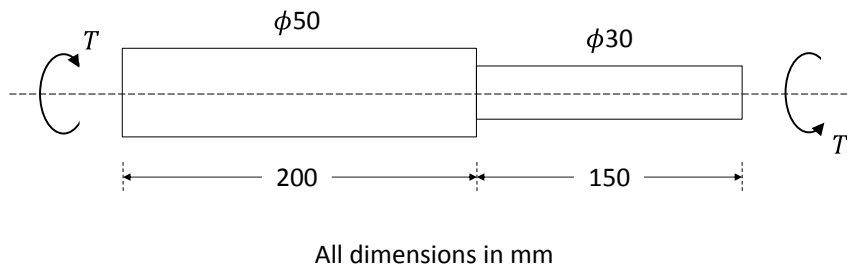

Fig Q2
2. The stepped steel shaft shown in Fig Q2 carries a uniform torque of 500Nm. Determine the total torsional strain energy stored in the shaft. Assume $G_{steel} = 70\text{GPa}$.